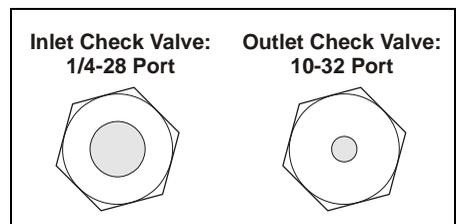

Figure 5-9. Check Valve Housings
4. Note that the housing for the *inlet* check valve assembly has a 1/4-28 port. The housing for the *outlet* check valve assembly has a 10-32 port (see Figure 5-9).